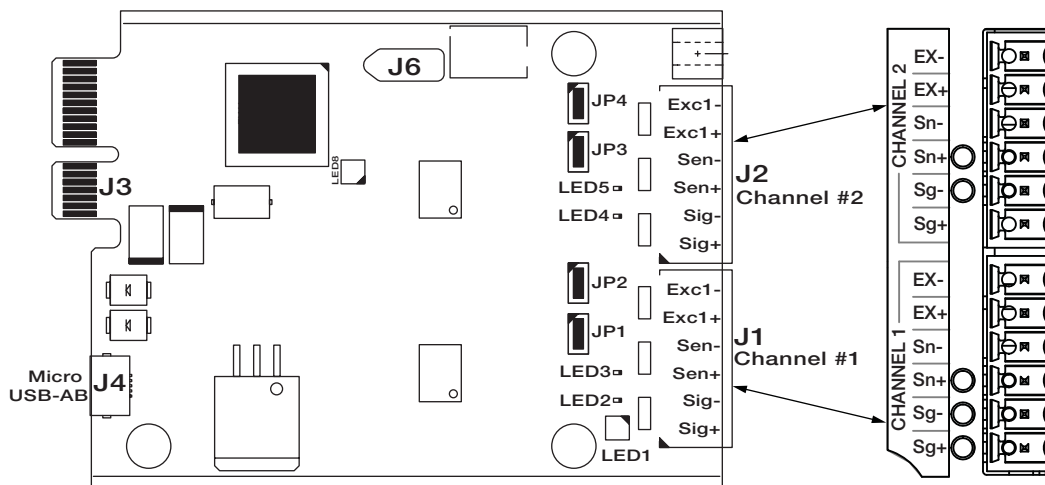

Figure 2. Dual A/D Scale Card
7. For Channel 1, wire the load cell cable from the scale to the connector (from the parts kit) for J1 as shown in Figure 2 and Table 4.
8. For Channel 2, wire the load cell cable from the scale to the connector (from the parts kit) for J2 as shown in Figure 2 and Table 4.